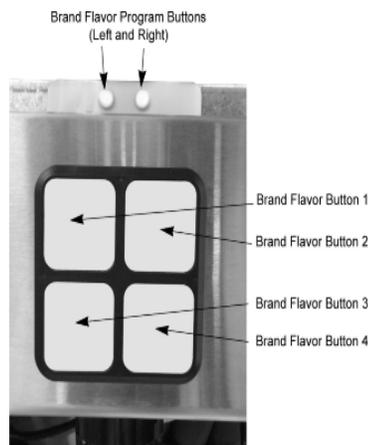

Figure 4.
1. Enter Water Select Mode (press and hold the two program buttons (see Figure 4) at the top of the keypad for approximately 4 sec). All four of the brand buttons flash off for 1 sec. and then illuminate or flash at full intensity according to the Dispense Type.